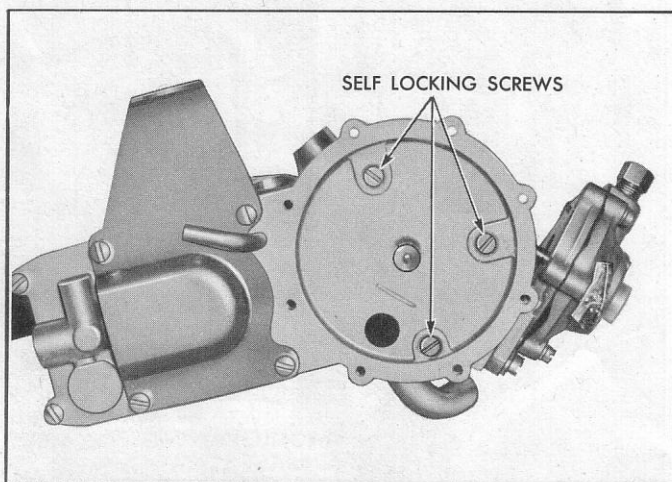

Fig. 40—Fuel Meter Cover Attaching Screws
2. Remove nylon shield at diaphragm control link and 9 fuel bowl cover attaching screws (fig. 40). Carefully lift bowl cover, upper support bracket